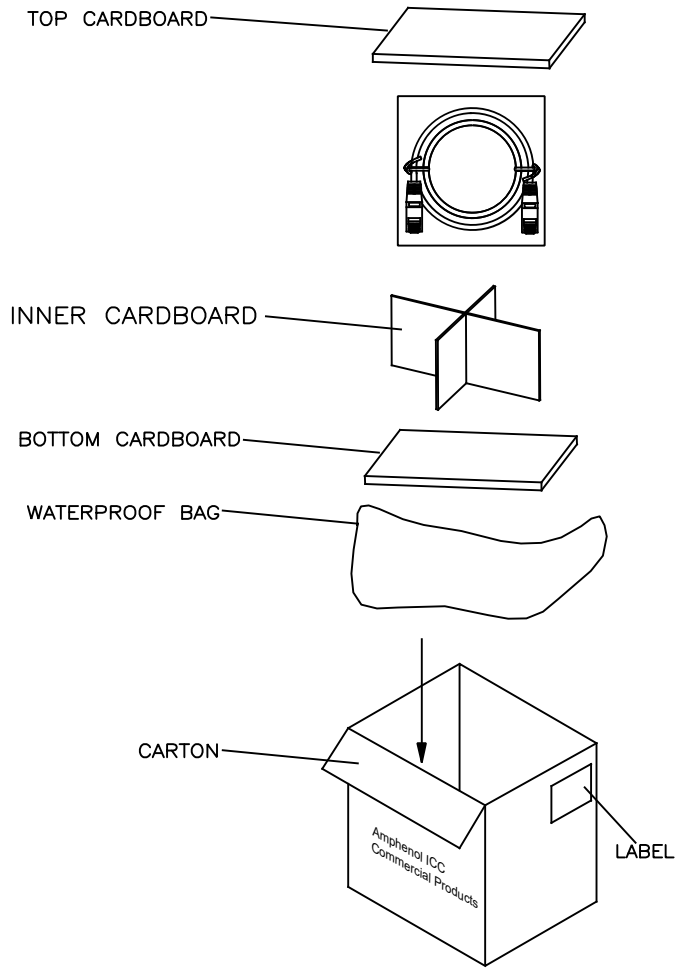

FIGURE 2
2. SEE FIGURE 2 FOR PACKING DETAILS, LOADING QUANTITY VARIANCE WITH DIFFERENT CABLE LENGTH.